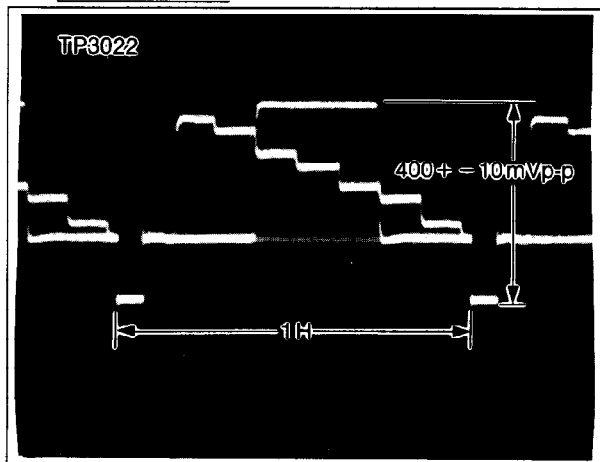

Fig. E20
4. Adjust VR301 so that the luminance level to be 400+-10mVp-p as shown in Fig.E20.